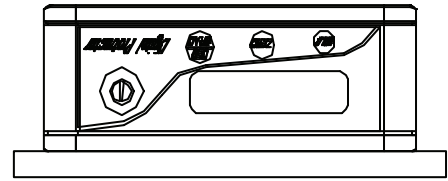
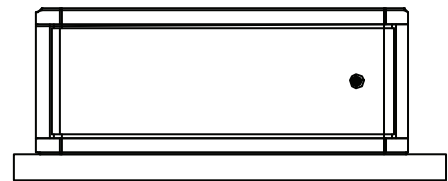

Figure 12
Figure 13
(3) Overturn the instrument in the same plane as figure 12, wait 10 seconds and record the third angle value when it is stable.
(4) Rotate the instrument 180° again on basis of figure 12, see figure 13, wait 10 seconds and write down the fourth degree value when it is stable.